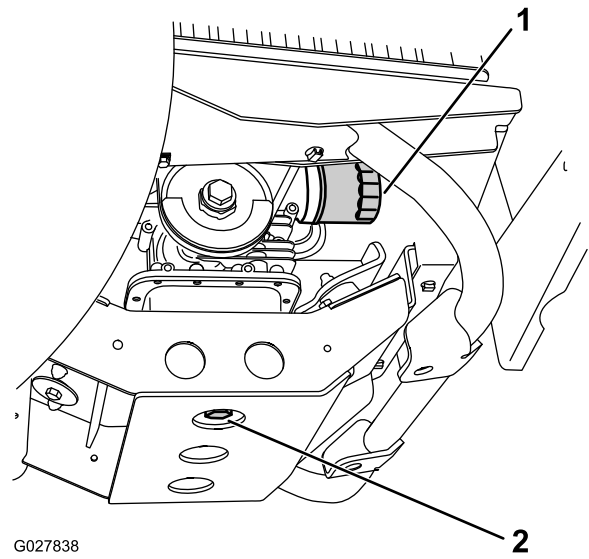

Figure 32
7. Place a drain pan under the drain plug (Figure 32).
8. Remove the drain plug (Figure 32).
9. Install the drain plug and seal (Figure 32) and torque the plug to 45 to 53 N·m (33 to 39 ft·lb).
2. Remove the existing oil filter (Figure 32).
4. Thread the new filter onto the filter adapter until the gasket contacts the mounting plate, then tighten the filter an additional 1/2 to 3/4 turn (Figure 32).